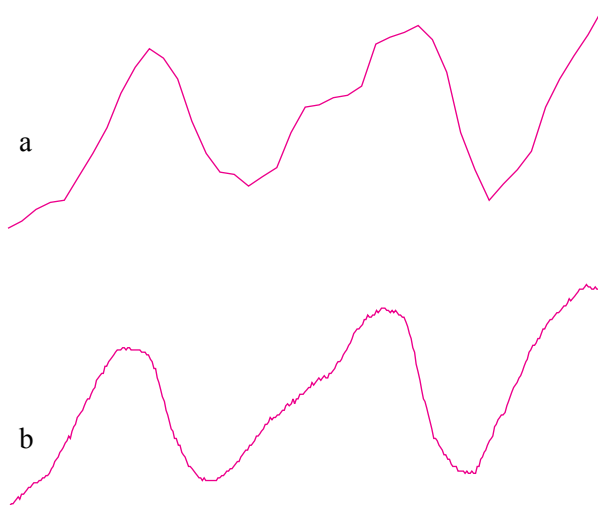

Figure 8-4 An expanded view of narrow lines in an EPR spectrum using 1024 points (a) or 8192 points (b).
- **Selecting the number of data points.** The number of data points is the other parameter that will determine the appropriate sweep time. A general rule is to make sure that you have at least 10 data points within the narrowest line that you are trying to resolve. This means that for EPR signals with very narrow lines you will need to increase the number of data points that are collected for a given field sweep. However, if the lines of your EPR signal are sufficiently wide, increasing the number of data points will not yield any additional information, but will only result in longer sweep times. With the Elexsys you can select 512, 1024, 2048, 4096 or 8192 data points. Figure 8-4 shows the enhancement in resolution achieved by increasing the number of data points.